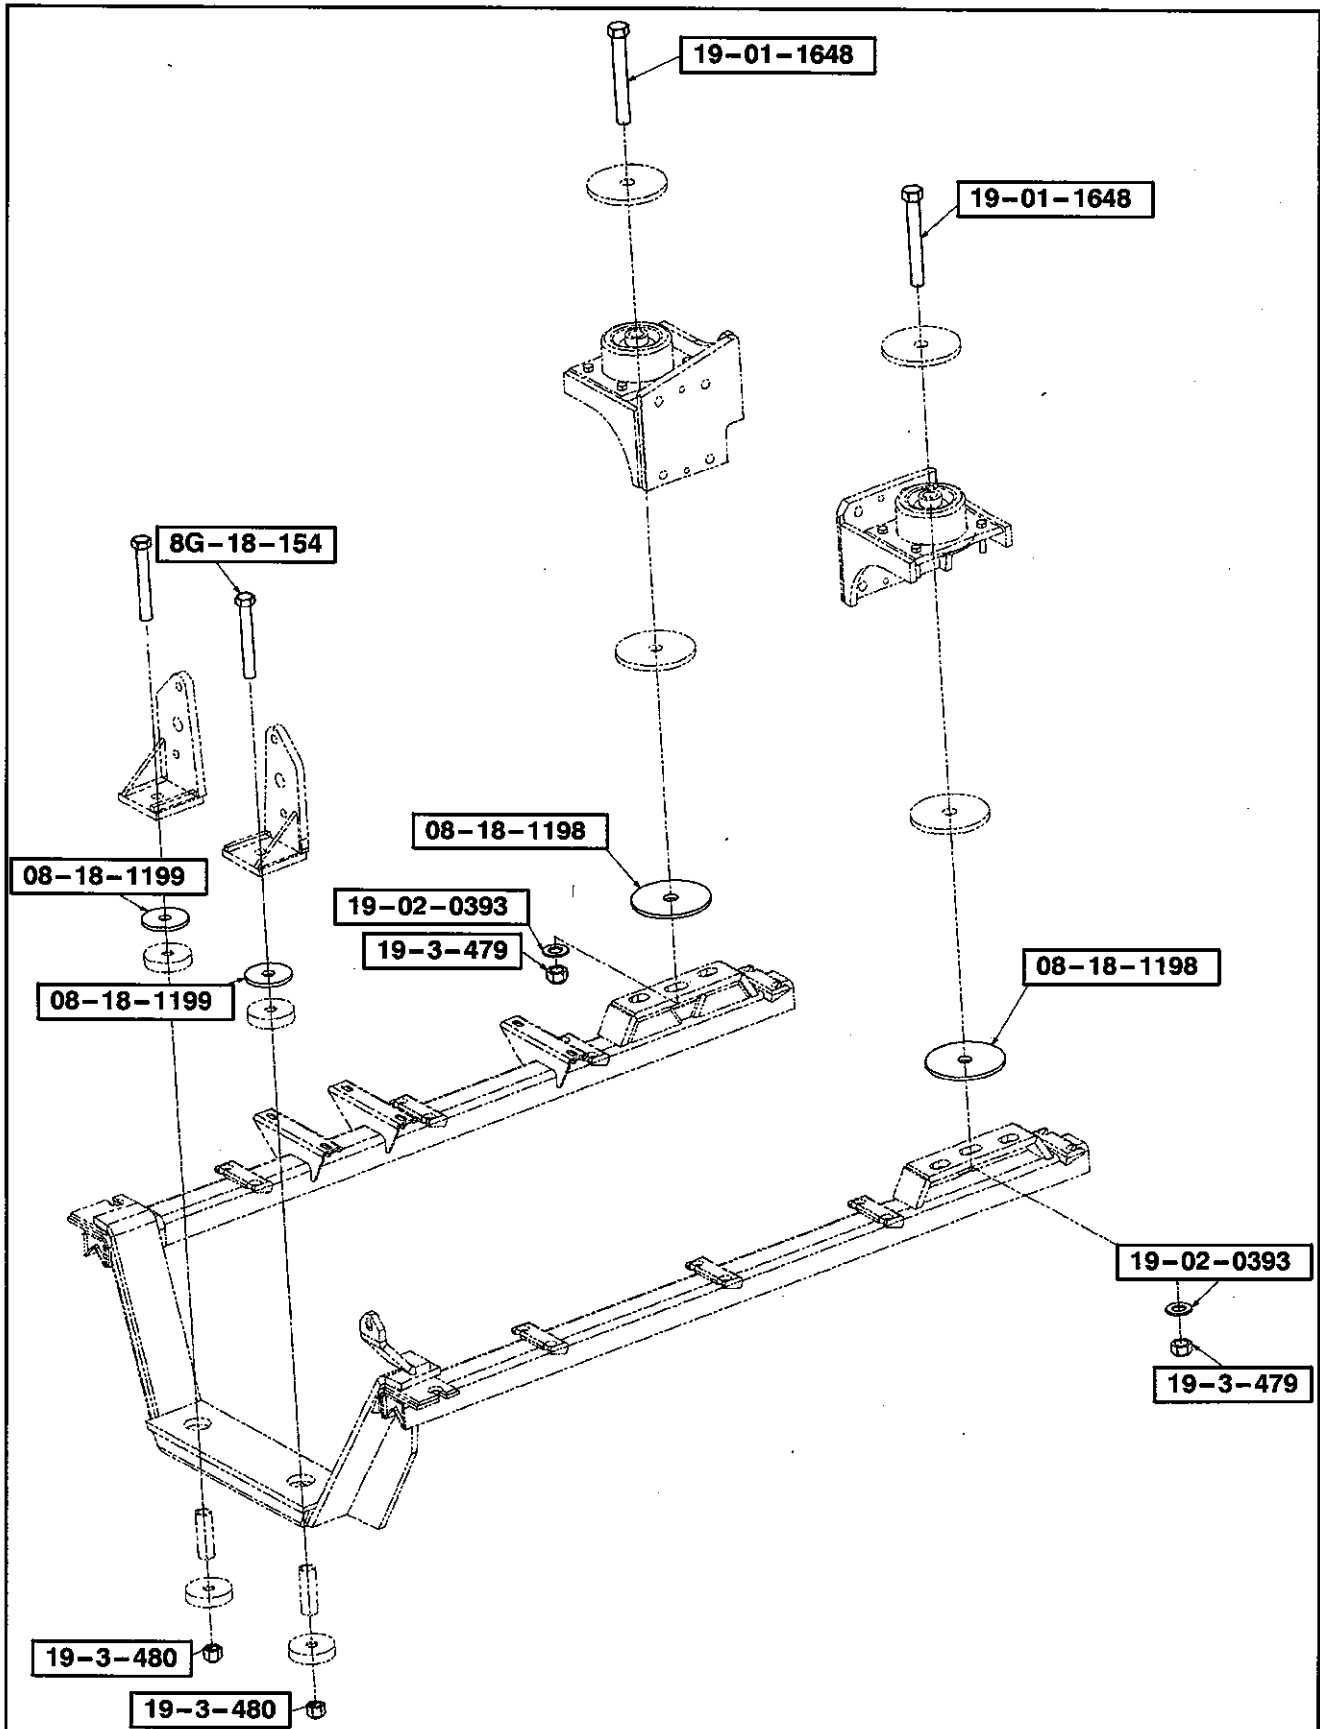

Figure 1.
3. Locate the engine cradle mounting hardware shown in Figure 1 (four locations).
4. Remove and discard the existing locknuts only from the four locations shown in Figure 1.